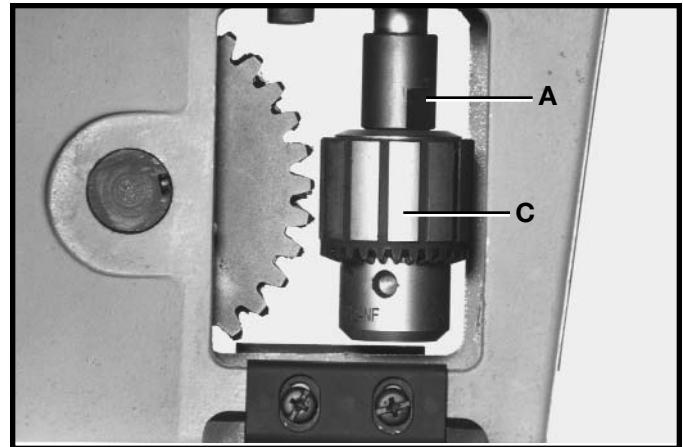

Fig. 37
When using bits with extra long shanks, it will be necessary to remove the extension (A) Fig. 37. This can be accomplished by inserting screwdriver into center hole of motor end cap (B) Fig. 38, and into slot in end of armature shaft. Then using chuck key, unscrew and remove chuck (C) Fig. 37, and extension (A). Remove extension (A) from chuck (C) and replace chuck (C) on end of motor shaft.